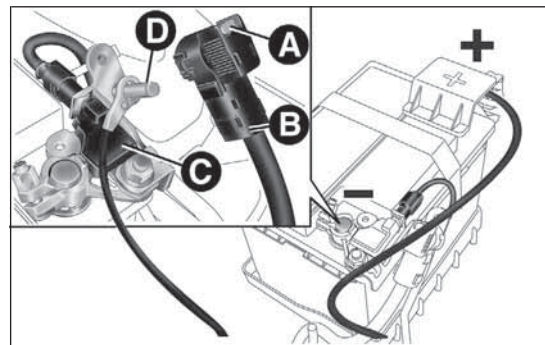

fig. 156
- ☐ disconnect the connector A fig. 156 (pressing the button B) from the sensor C monitoring the battery conditions, on the negative pole D of the battery;